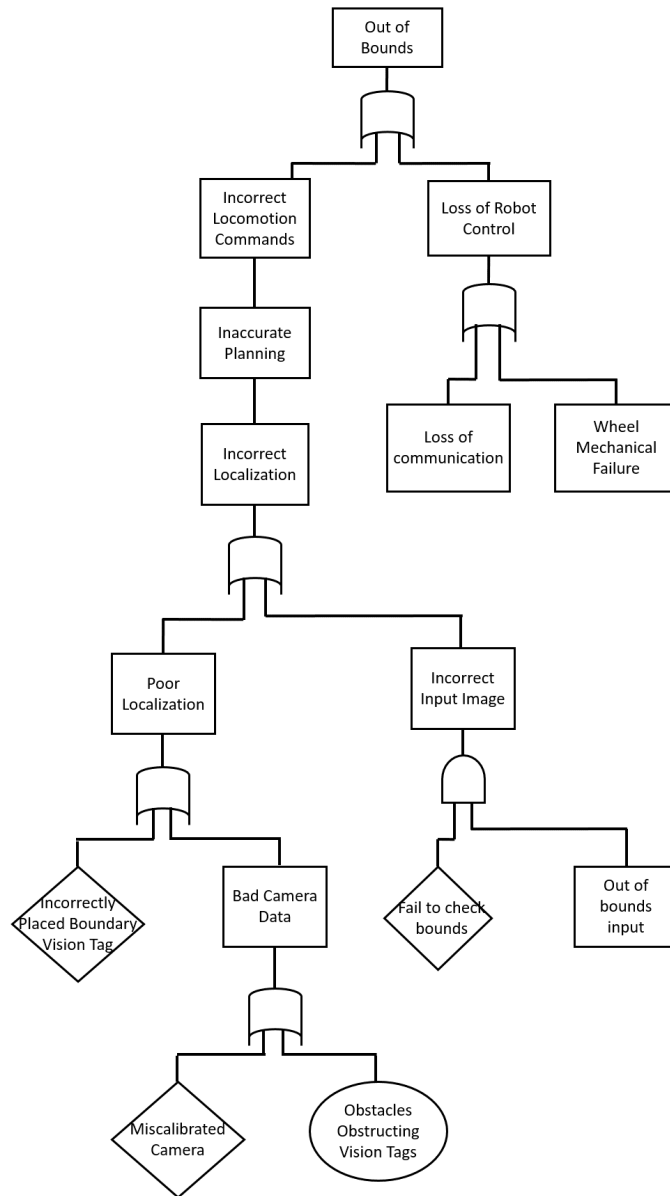

Figure 1: Fault Tree of the Failure Mode of the Robot going out of bounds.
**Failure Tree:** See Fig.1(RH, V2)